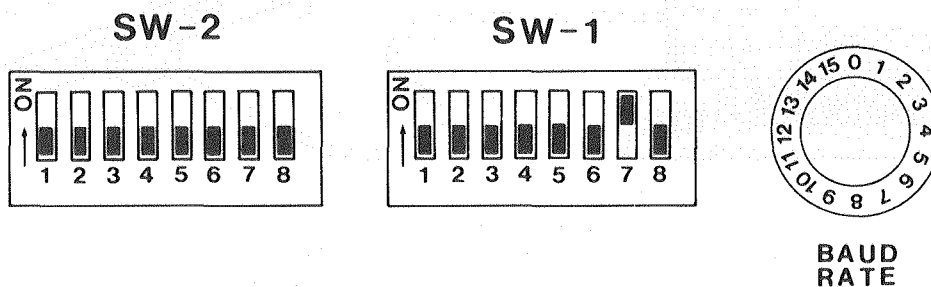

Fig. 5-3
- ① Turn OFF the power switch on the side panel of the DPX-3300.
- ② Turn ON only the DIP Switch 1- ⑦ ("SW-1") and turn OFF all of the DIP Switch 2 ("SW-2"). See Fig. 5-3. It does not matter where the BAUD RATE switch is set. For the selection of a Parallel Interface is turning OFF the DIP Switch 1- ⑤. Turning ON only the DIP Switch 1- ⑦ for the PARALLEL IN, ANSI-D size for plotter papers, ANSI ASCII (I) for character fonts. For more information, read 10.1 "LIST OF DIP SWITCH SETTING" in CHAPTER 10.